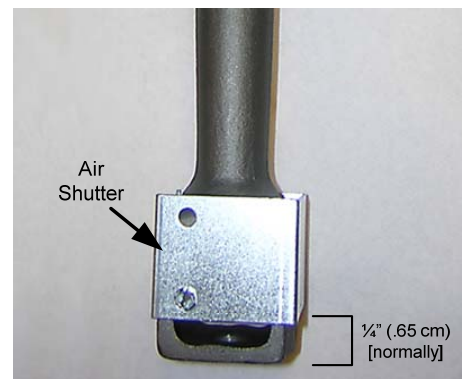

Figure 15: Install air shutters (high altitude and LP units).
6. On high altitude and LP units, air shutters should be installed. They are normally set approximately 1/4" (.65 cm) from the bottom of the burner, as shown in Figure 15.